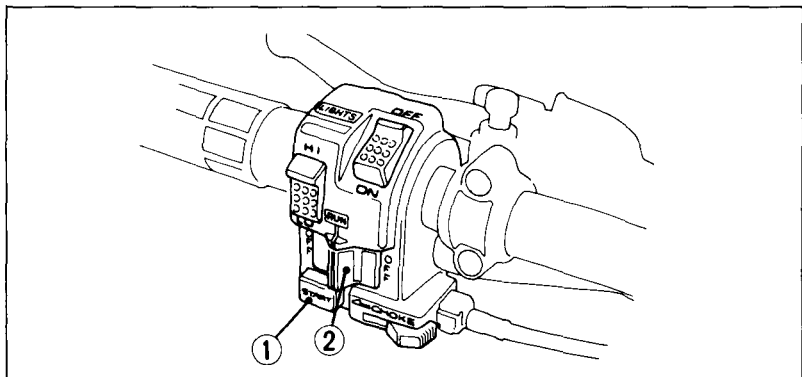

Fig. 2-8
The starter button (Fig. 2-8) is below the engine stop switch. To start the engine, press the starter button (1), with the transmission in neutral, the ignition switch ON and the engine stop switch at RUN.